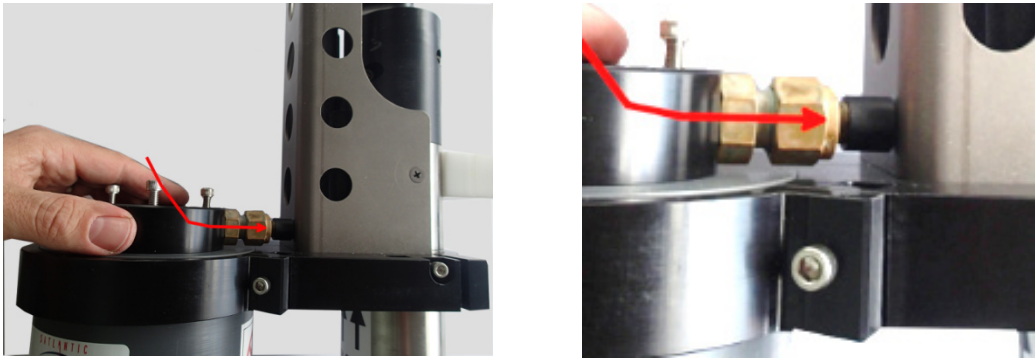

Figure 3
5. Re-install the flow cell, ensuring that the fitting mates with the MicroCAT conductivity cell exhaust (Figure 3).